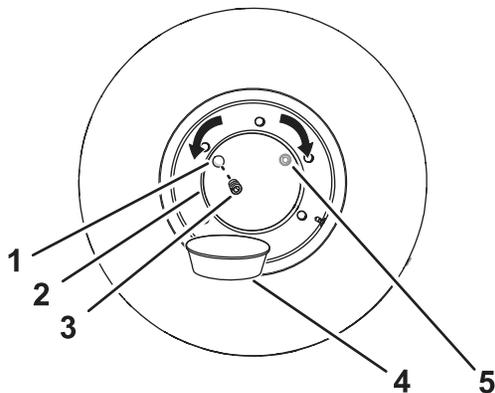

Figure 95
2. Move the machine forward or backward until the plug for the wheel hub is at either the 10 o'clock or 2 o'clock position (Figure 95).
8. Install the plug in the oil port of the wheel hub (Figure 95).
1. Move the machine forward or backward until the oil plug for the wheel hub is at the 12 o'clock position; refer to Figure 95 in Checking the Oil Level in the Wheel Hubs (page 69).
4. Place a drain pan under the drain port in the wheel hub (Figure 95).
5. Remove the plug from the wheel hub (Figure 95).
6. Check that the oil level is at the bottom of the threads of the oil port (Figure 95).